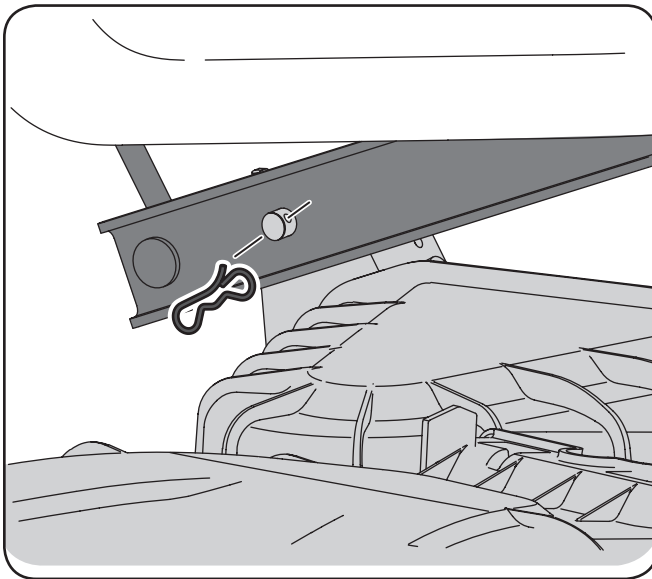

Figure 7-3
10. Looking at the cutting deck from the left side of the tractor, locate the bow pin on the rear left side of the deck. See Figure 7-3.
11. Remove the pin and slide the deck pin out of the deck lift arm. See Figure 7-3.